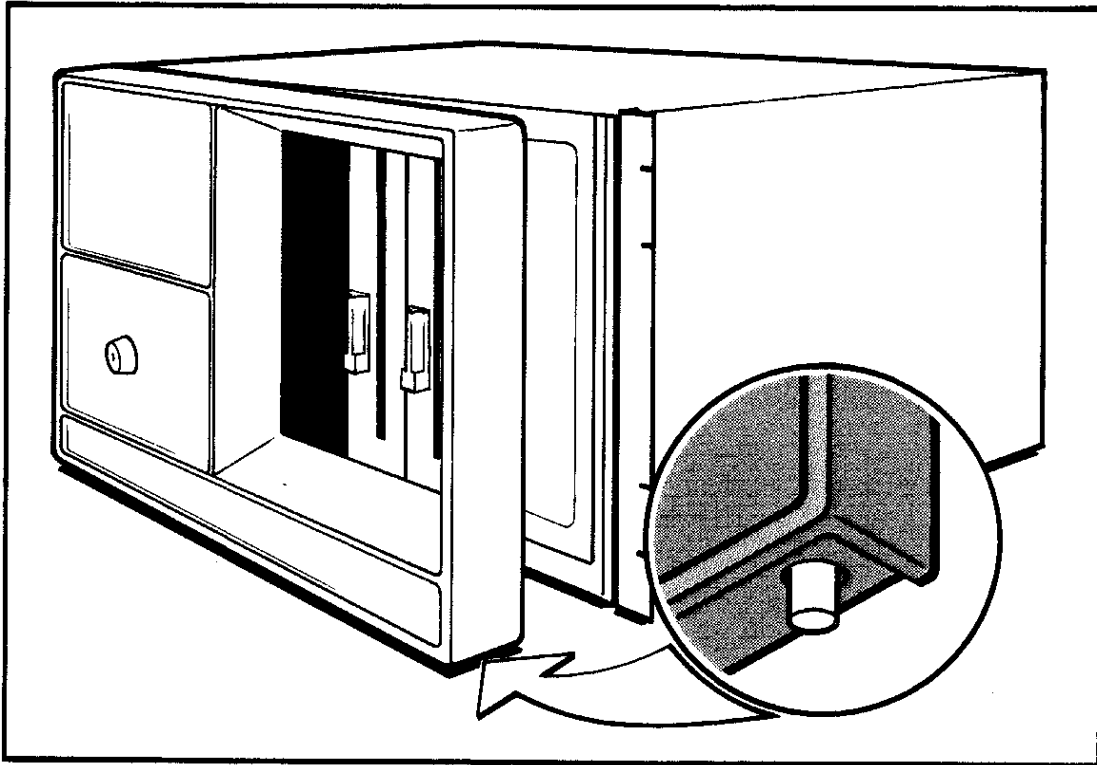

Figure 2-1: OPENING THE FRONT PANEL
2. Open the front panel of the system by pushing up on the button located just beneath the lower right-hand corner of the front panel (Figure 2-1). The panel is hinged so that it swings to the left.